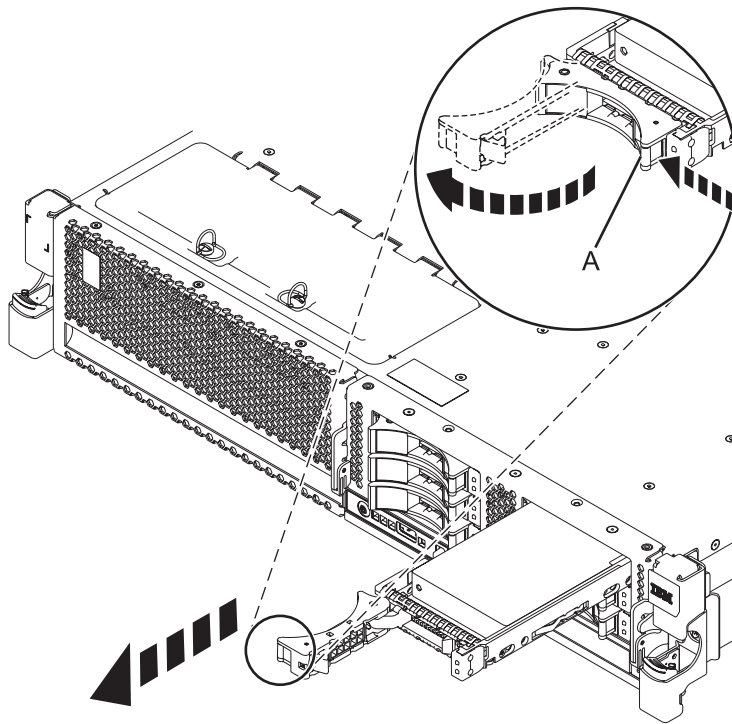

Figure 15. Removing a disk drive from the system
3. When the identify LED turns on solid, unlock the drive handle by squeezing it and pulling it out toward you, as shown in Figure 15. If the handle is not all the way out, the disk drive or solid-state drive cannot slide out of the system or out of the expansion unit.